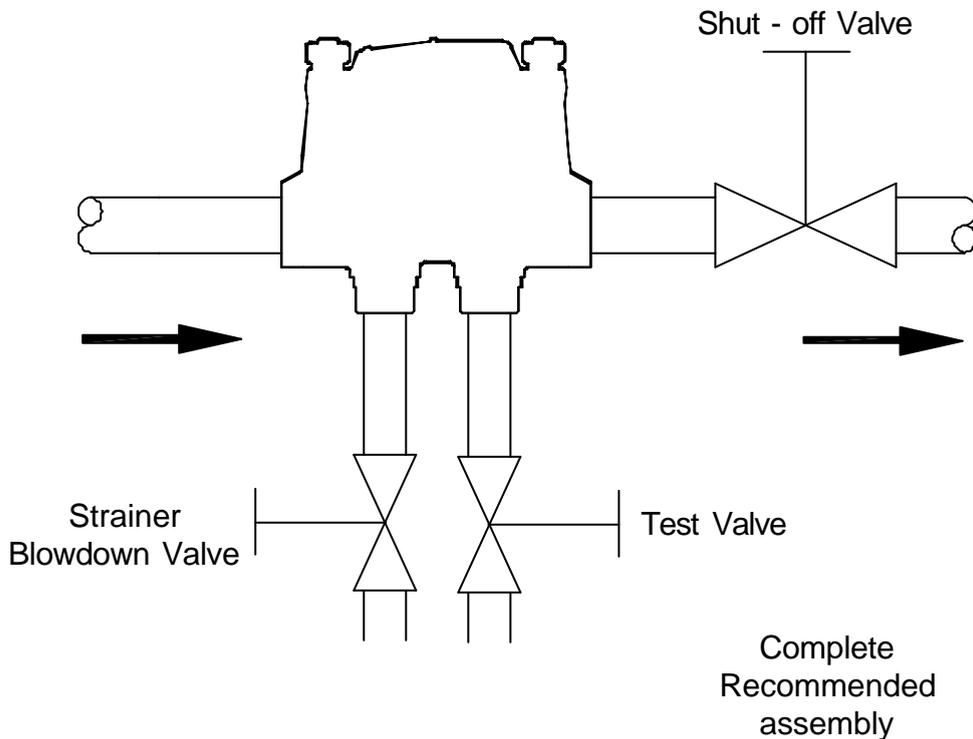

Fig. 10
- i. For checking operation of the trap when installed in a closed return system a test valve can be fitted as shown as in fig 10. Alternatively the trap can be supplied with a thermometer fitted to the outlet connection, or a contact temperature recorder used to measure the temperature differential across the trap. Ultrasonic meters must be used with care if the trap is operating in a continuous discharge mode as the results indicated can be misleading.